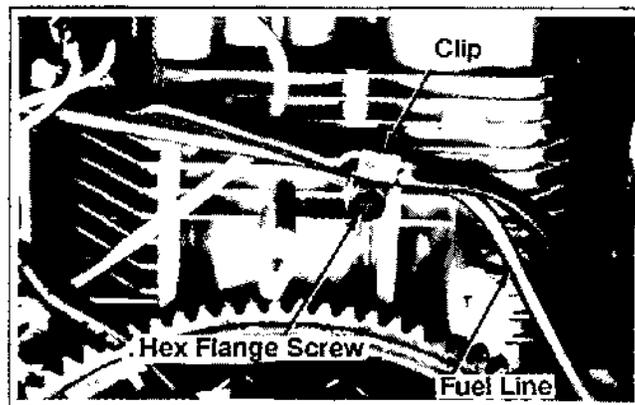

Figure 11-24. Installing Fuel Line.
1. Install the fuel line, clamp and hex flange screw. See Figure 11-24.